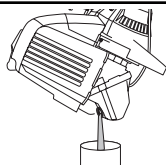

Fig. 23
3. Pour the oil out of the oil fill hole and into a container by tipping the unit to a vertical position (Fig. 23). Allow ample time for complete drainage.